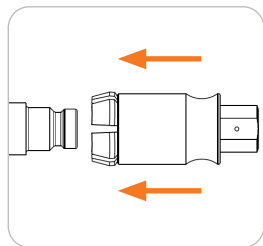

Figure 2
- ▶ Slide the connector's sliding sleeve forward (Pos. 1) onto the test piece (Figure 2).